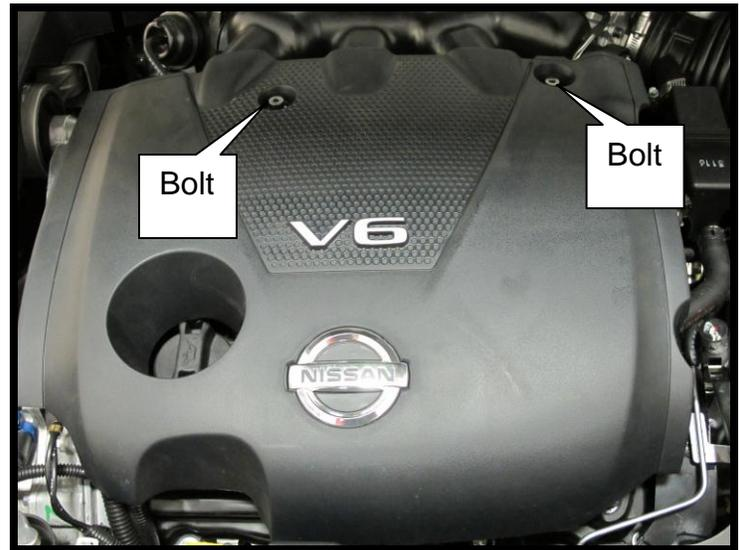

Figure 1
1. Verify ignition is turned Off and remove the engine cover. Refer to Figure 1.